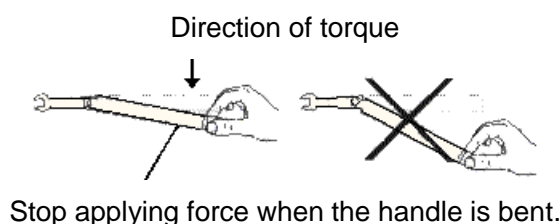

Figure 4-4. Use-method of torque wrench
- Grab the end of the torque wrench handle gently and apply force perpendicular to the handle until the wrench breaks. As shown in Figure 4-4: